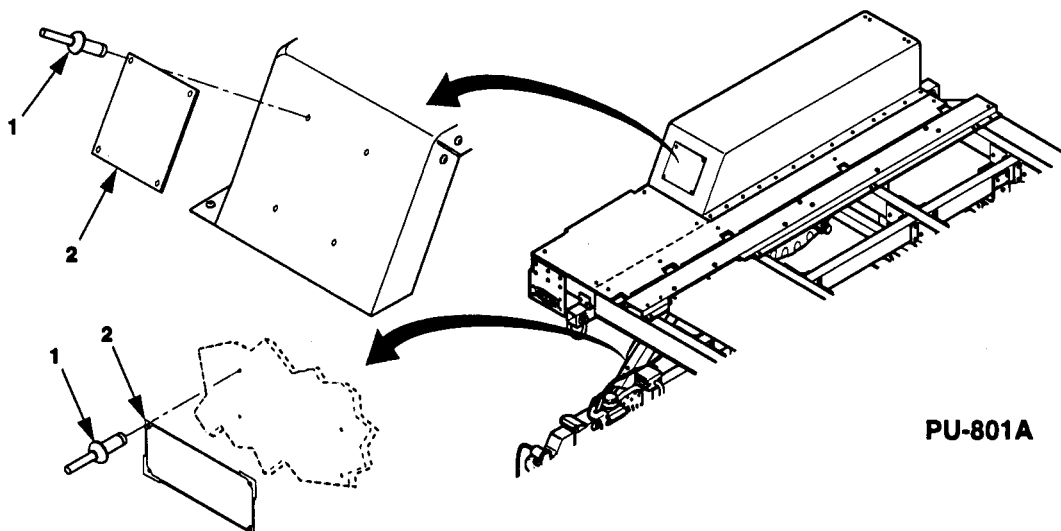

Figure 4-28. Data Plate Replacement (High Mobility Trailer).
Remove rivets (1, figure 4-28) and data plate (1).